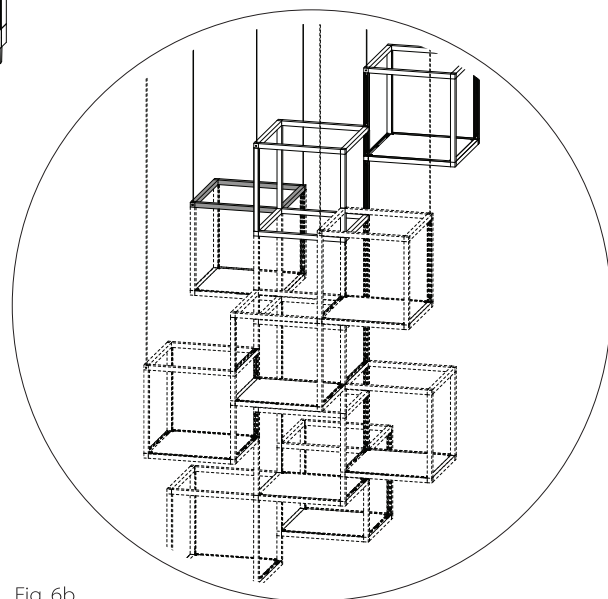

Fig. 6b
- 4c. Section as part of whole assembly shown in Fig. 6b.